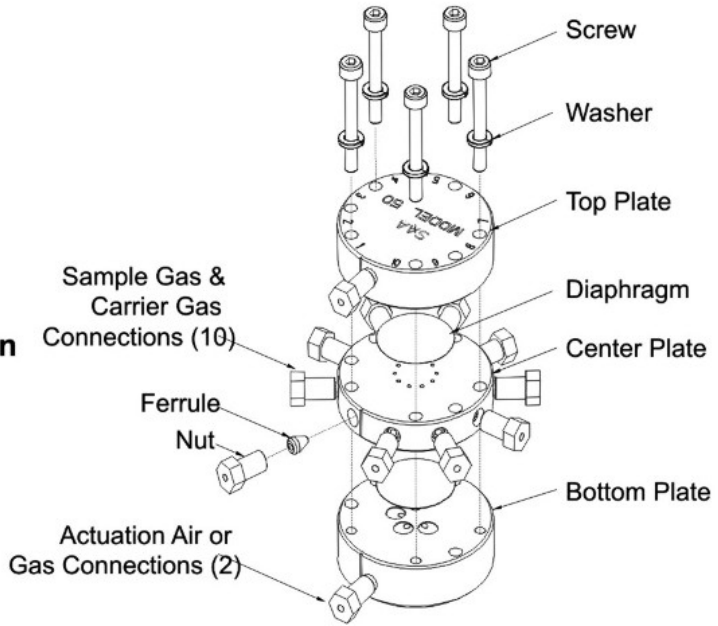

Figure 4-26: Exploded View of Model 50 Valve
Valve Removal and Disassembly (see Figure 4-26)
5.	Remove the valve from the oven by unscrewing the two M3 x 35 socket head cap screws securing the Model 50 Valve. These mounting screws are located between ports 2 and 3 and ports 8 and 9. Refer to Figure 4-26 for port locations.
7.	Place the valve bottom plate on a lint free cloth. Using a 2.5 mm Allen wrench, remove the five component socket head fastening cap screws. Refer to Figure 4-26.